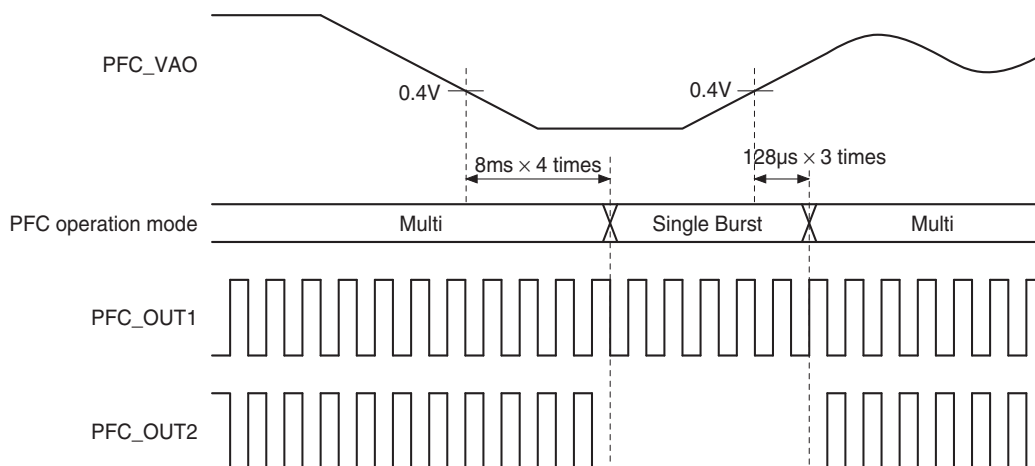

Fig. 9-1. Switching Timing Chart between Single RFC and Interleave PFC
This IC has standby mode and three normal operation modes as described in the item 3. When the PFC is operating in sequence start-up mode or rapid start-up mode, this IC performs interleave control if PFC_VAO > 0.4V. When the load is low, it switches to critical conduction PFC operation in single mode on the master (PFC_OUT1) side only after correspondence to $8\text{ms} \times 4$ times if PFC_VAO < 0.4V. It switches to interleave operation after correspondence to $128\mu\text{s} \times 3$ times if PFC_VAO > 0.4V again. Fig. 9-1 shows the timing chart to describe this.